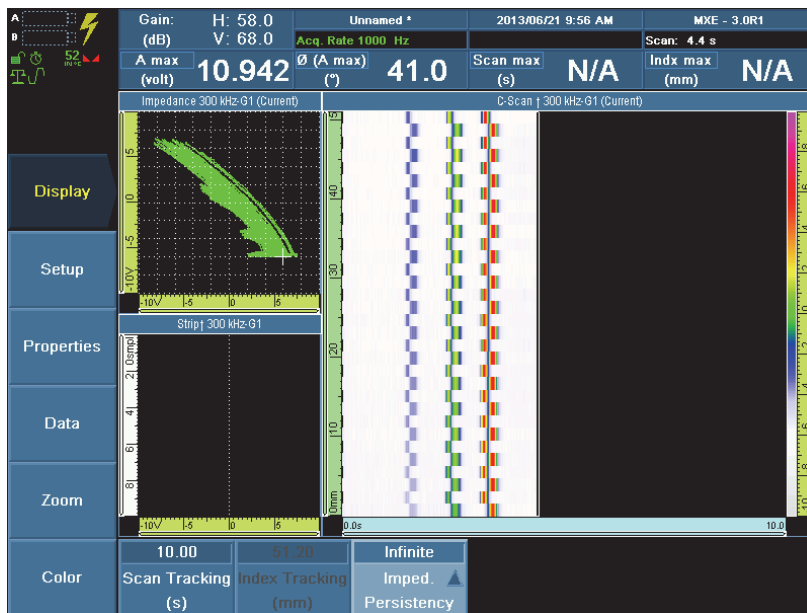

Figure 3-10 The increased phase shift viewed with an added C-scan view
- Select **Display > Setup > Acquisition = CSI C-Scan, Strip Chart, and Impedance Plane**, and then press the Accept key to confirm (see Figure 3-10 on page 63).